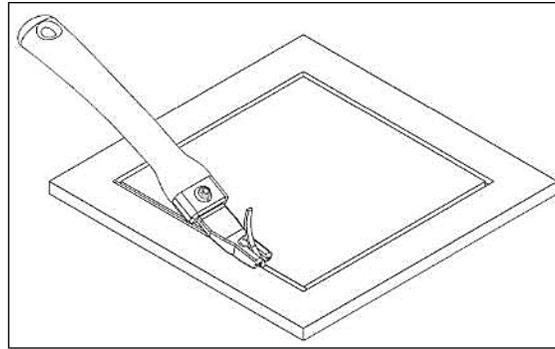

Figure 10. Gap Filler Removal
3.2.4. With the shallowest TGB installed (0.075"), apply forward pressure and guide the TGB through the gap filler. See **Figure 10**.